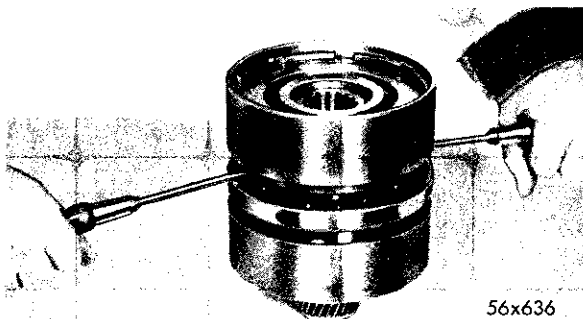
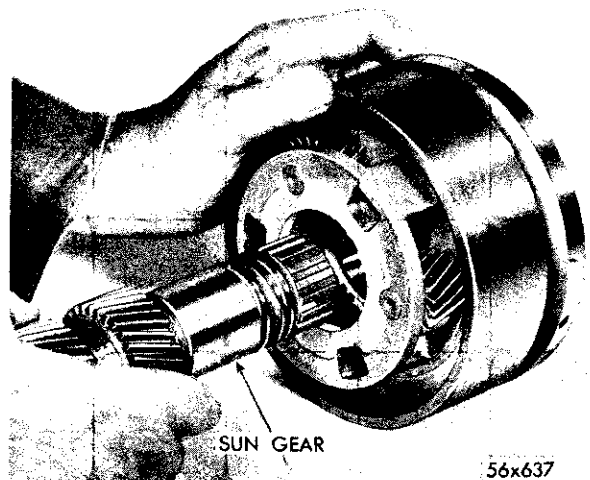

Fig. 105—Removing Rear Clutch Piston Retainer Assembly from Sun Gear
Fig. 106—Removal and Installation of Sun Gear (Reverse Planet Pinion Carrier and Overrunning Clutch Assembly)
With unit setting in upright position, remove sun gear and front clutch thrust washer (A). Using two screw drivers, inserted between clutch and intermediate support, remove rear clutch retainer assembly from sun gear, as shown in Figure 105. Remove the two rear clutch seal rings (neoprene) from sun gear. Remove reverse sun gear from overrunning clutch and reverse planet pinion carrier assemblies, as shown in Figure 106.